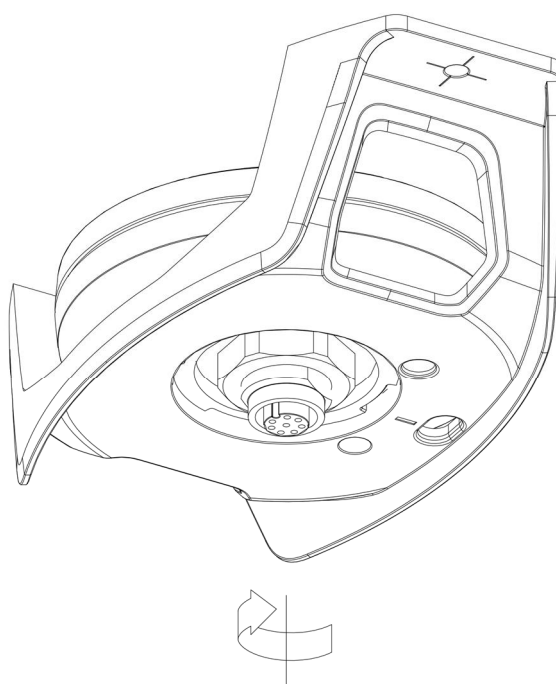

**FIGURE 21: ROOF MOUNT INSTALLATION STEP 4
Step 4: Please refer to *NMEA 0183 Baud Rate* on page 20 for details on NMEA 0183 baud rate settings and *LED Color Description* on page 20 for LED color description. Figure 21 is illustrating the bottom side of the LT-300 GNSS Receiver; highlighting the 2-color LED, the locking symbols, and the safety lock hole.